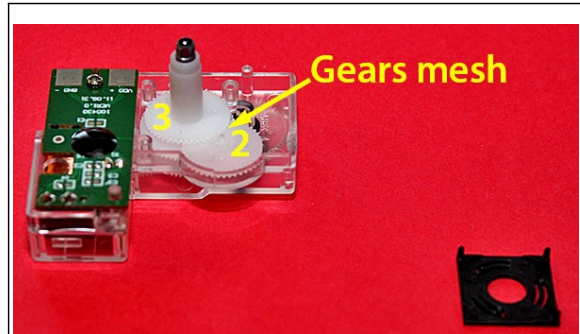

Fig. 50: Gear #3 in place.
- **Gear #3.** Place gear #3 over the shaft on gear #1. It should mesh with the small gear on the top of gear #2. See Fig. 50. Take special care to ensure that gears mesh where they are supposed to. It's easy to overlook this detail, and the movement won't work if gears don't mesh.